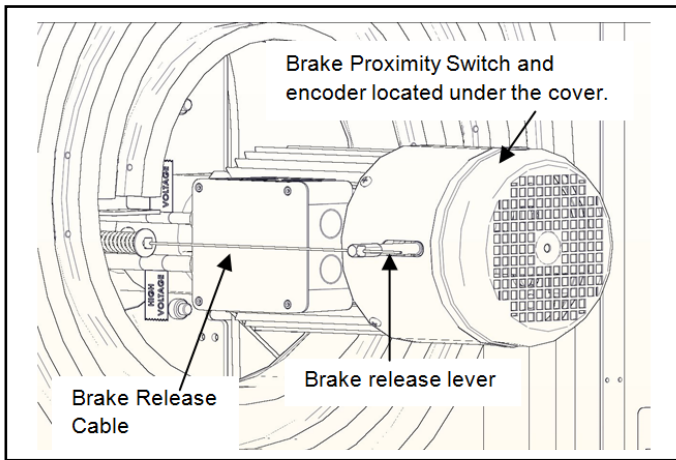

Figure 51
1. Route the brake release sensor cable, leading from the motor junction box, to the control panel. (See Figure 51.)